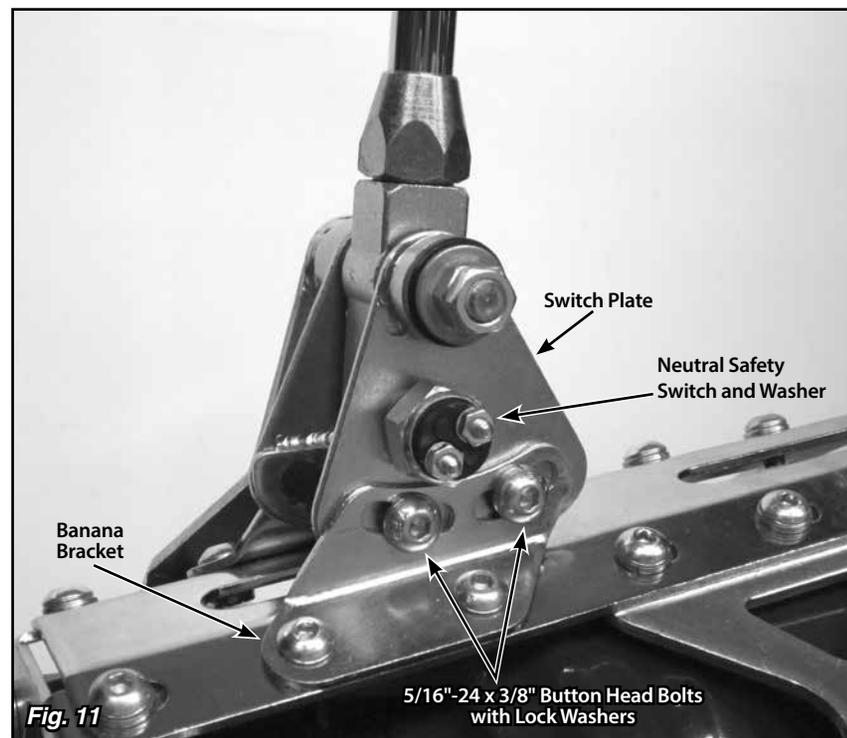

Fig. 11
**Step 17:** Remove the neutral safety switch and washer from the switch plate on the **passenger** side of the shifter using a 7/8" wrench or socket. **Fig. 11**
**Step 18:** Loosen, but do not remove, the two 5/16"-24 x 3/8" button head bolts that attach the switch plate to the passenger side banana bracket (the bolts are in curved, slotted holes). **Fig. 11**